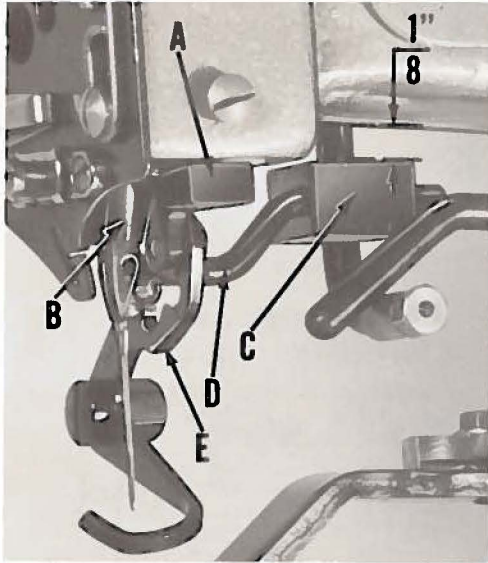

Fig. 13
The thread wiper mounting bracket (A, Fig. 13) should be up tight against the bed casting and also against the rear of the needle bar bushing (B).
With the machine in "STOP POSITION", there should be at least $\frac{1}{8}$ inch clearance between the top of the thread wiper drive lever bracket (C) and the arm casting (Fig. 13). The wiping portion of the wiper arm hook (A, Fig. 14) should be approximately $\frac{5}{16}$ inch to the right of the centerline of the needle (Fig. 14). The wiper arm hook (A, Fig.
14) must swing freely towards the left until it strikes the under surface of the arm head casting. The forward end of the thread wiper drive lever (D, Fig. 13) should protrude through the cam opening of the wiper arm hook (E) at least $1/32$ inch, but not into the path of, or strike the needle bar.